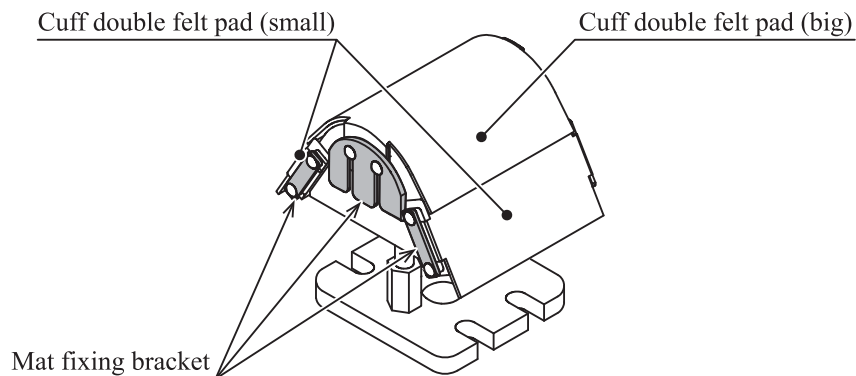

Figure-2
- ③ Loosen all screws and nuts which hold the fixing bracket and remove the old pads. (Figure-2)